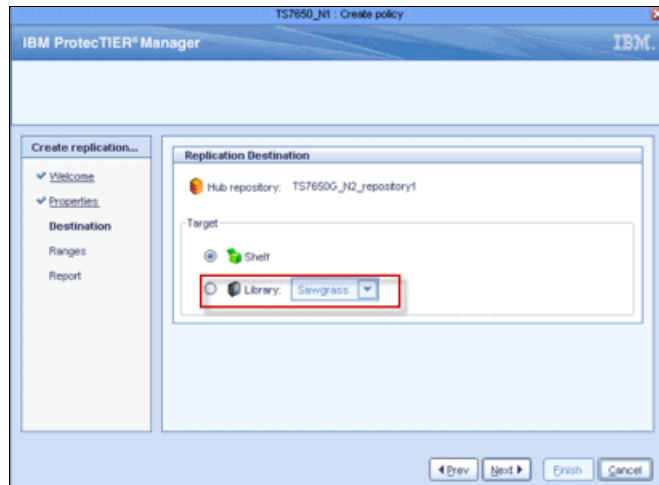

Figure 22-8 Set replication destination
- ▶ Define a replication policy at ProtecTIER server A with a target destination to a VTL of ProtecTIER server B (Figure 22-8). By default, replication takes place after a backup is started and it runs to completion. This can make it difficult to determine the replication completion time. Use a replication schedule so that the cloning process can be scheduled upon replication completion.